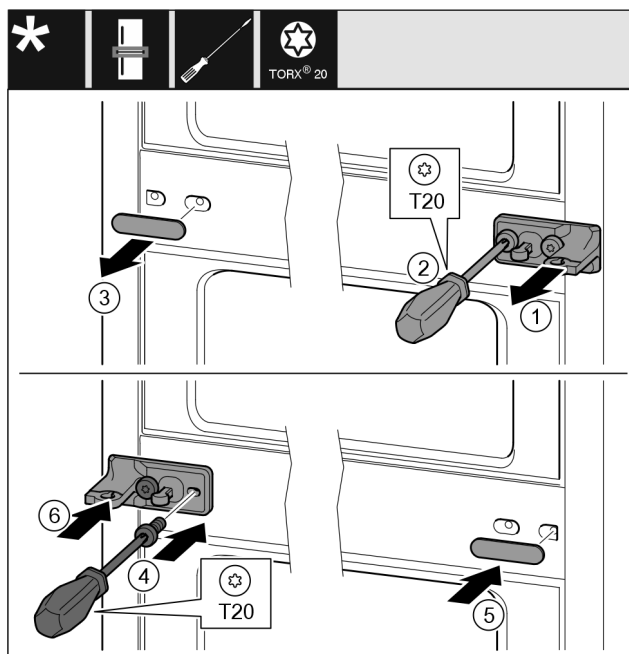

Fig. 12
- Remove the washer Fig. 12 (1).
- Unscrew screws Fig. 12 (2) with screwdriver.
- Remove the cover Fig. 12 (3) carefully.
- Turn the bearing block with film Fig. 12 (4) by 180° and screw it tight on the other side.
- Turn the cover Fig. 12 (5) by 180° and attach to the other side.
- Slide on the washer Fig. 12 (6) from the front.